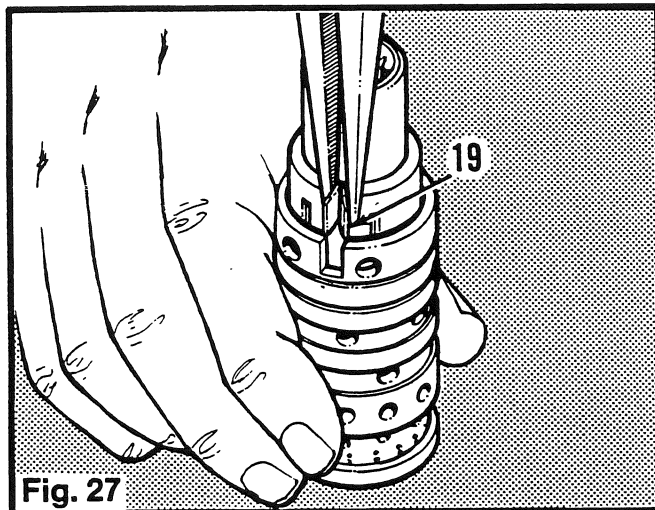

Fig. 27
5. Compress the centering springs (19) into their slot. (Fig. 27)